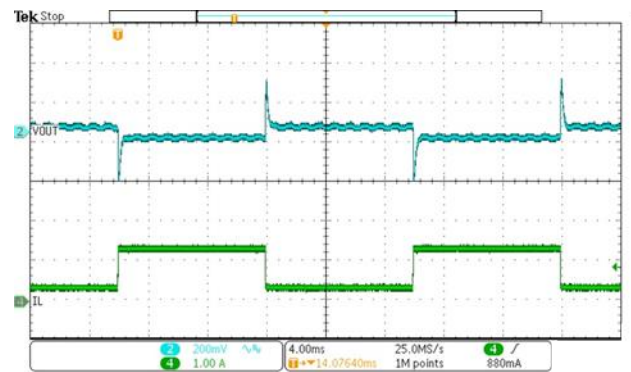

Figure 17. Load Transient
The SCT2321 features external programmable output voltage by using a resistor divider network  $R_1$  and  $R_2$  as shown in the typical application circuit Figure17. Use equation (11) to calculate the resistor divider values.